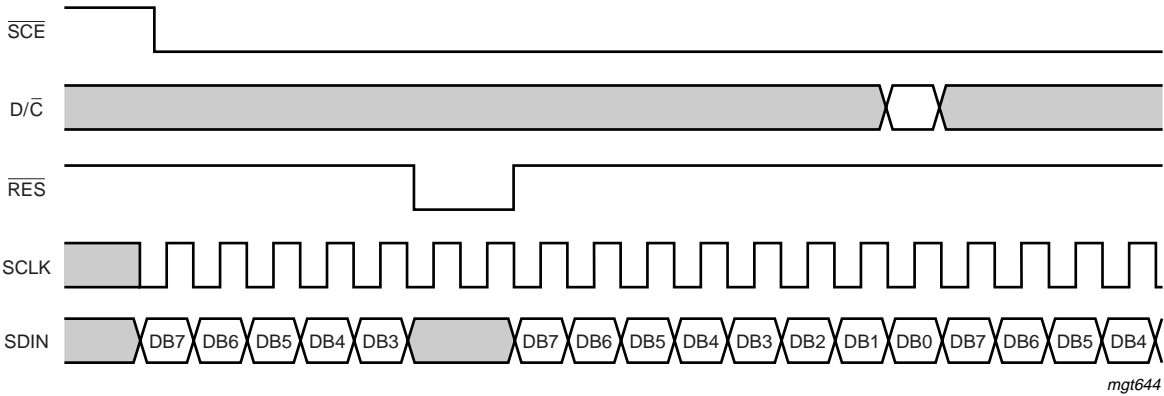

Fig.11 Serial interface reset (\overline{RES}).
- If pad \overline{SCE} stays LOW after the last bit of a command or data byte, the serial interface expects bit DB7 of the next byte at the next positive edge of SCLK (see Fig.11). If pad SCLK goes LOW after the last data bit (bit DB0), either:
- A reset pulse \overline{RES} interrupts the transmission. No data is written into the RAM and the registers are cleared. If pad \overline{SCE} is LOW after the positive edge of pad \overline{RES} , the serial interface is ready to receive bit 7 of a command or data byte as shown in Fig.11.